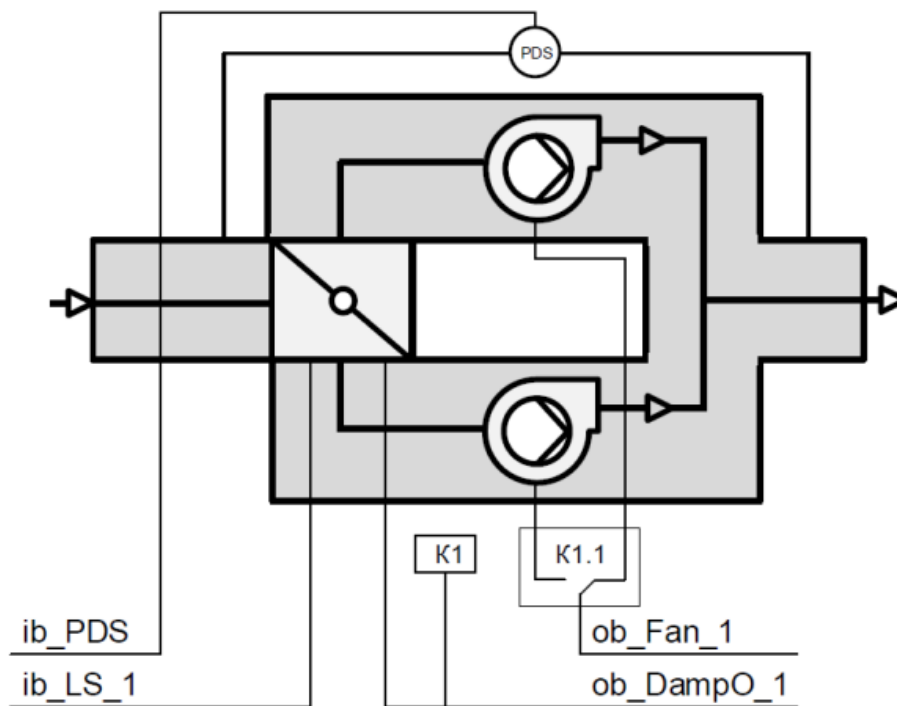

Figure 2 – Connection diagram for mode 0.
- 1- mode_Damp=0. One air damper with one limit switch is used. To start the fans, one output (ob_Fan_1) is used. To control the damper position, one output (ob_DampO_1) is used, which determines which specific fan will receive the control command (acting as a selector). The connection diagram is shown in Figure 2.